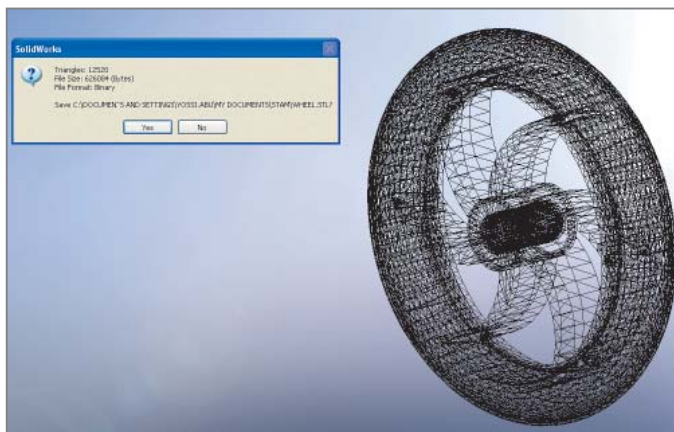

Figure 9. Save confirmation message
9. In the confirmation message, click **Yes** (see figure 9).